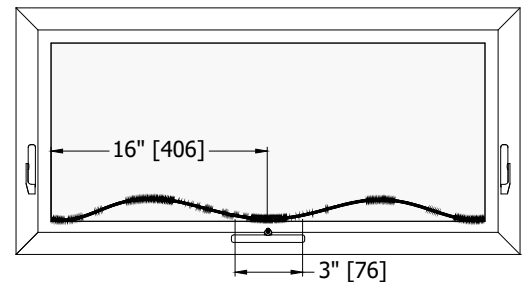

FIG. 9
- b. Cut glazing gasket 1/4" [6] inch longer per foot to avoid any shrinkage. See **FIG. 9**